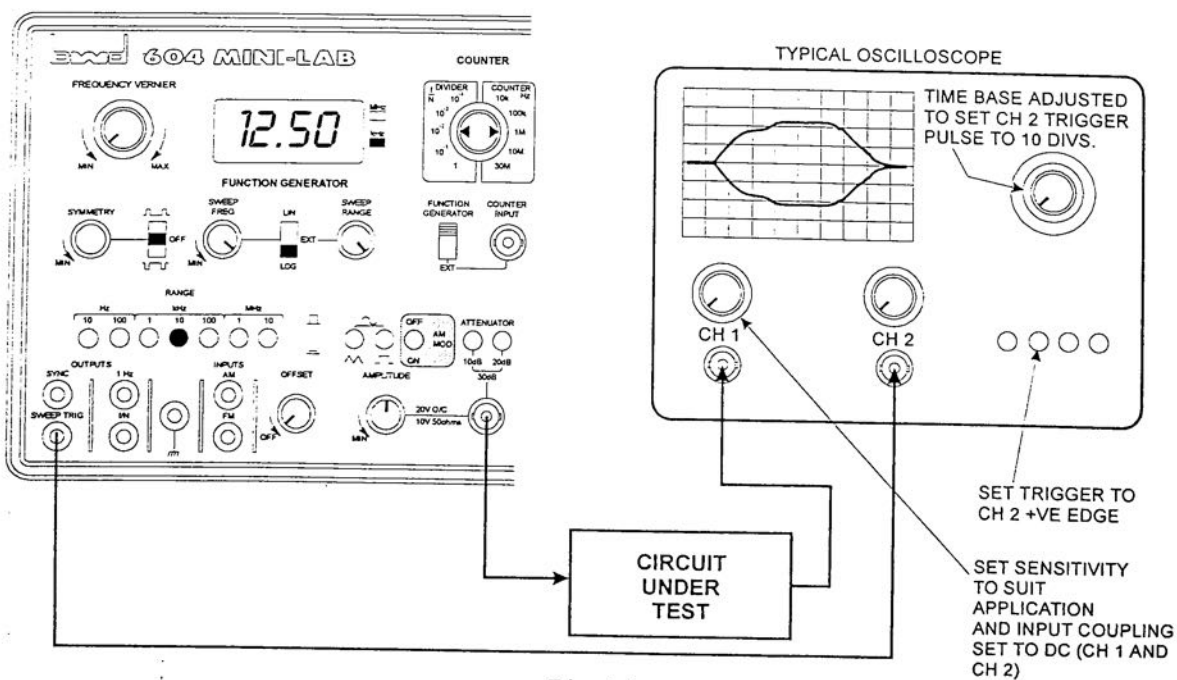

Fig 4.4
4.1.3 Sweep Output. (See Fig 4.4)
Setting the controls as shown in Fig 4.4 enables the frequency of the generator to be swept over the selected frequency range. The sweep width is adjusted by the Sweep Range control running low frequency to high frequency as the control is turned clockwise. Sweep can be selected to be linear or logarithmic.